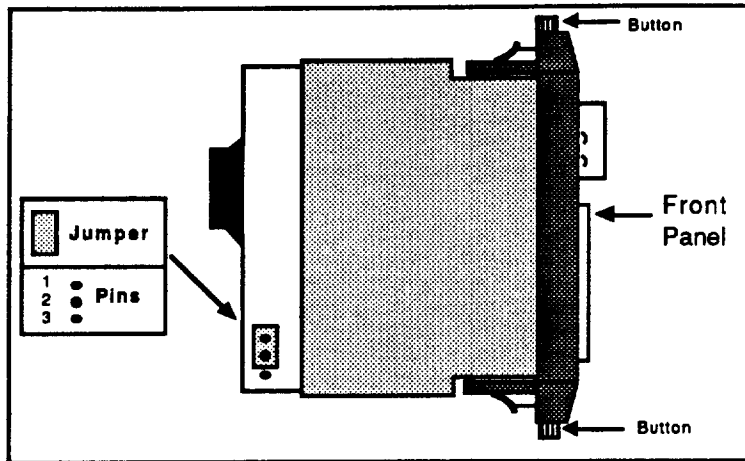

Figure 3-2. Location of Jumper for Standard Card Cage
- In a standard rack system, the jumper (refer to Figure 3-2) must be placed over pins **1 and 2**.
- In an extended PLC cage, the jumper (refer to Figure 3-2) must be placed over pins **2 and 3**. The jumper disables the 1XX (octal) addresses on the card.